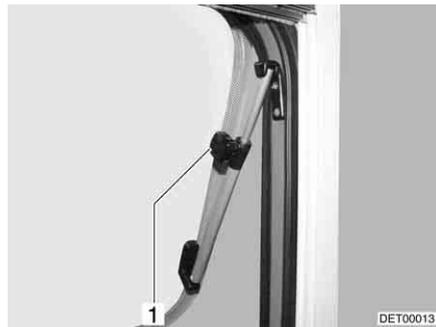

Fig. 99 Skylight with rotary hinges, open
- Open the skylight until the required position has been reached and use knurled knob (Fig. 99,1) to secure in position.
- Turn knurled knob (Fig. 99,1) until the latch is released.